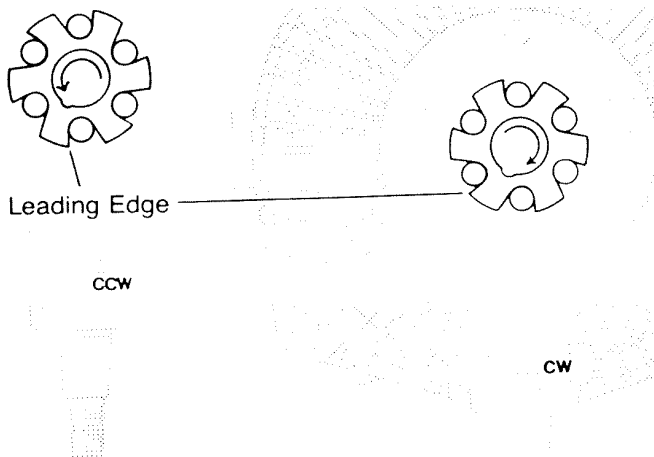

Fig. 41
**Important:** For correct carrier rotation the leading edge of carrier must rotate in the same direction as the input shaft. Install as shown in Figure 41.